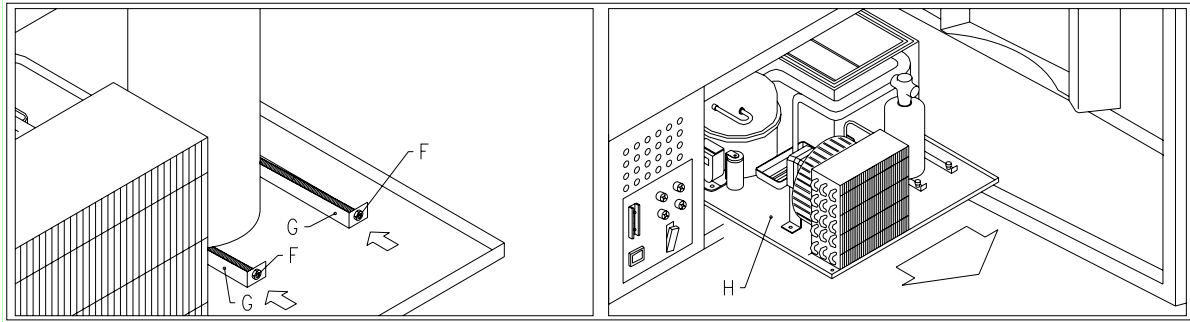

FIG. 19
- Loosen the handwheels pos. F FIG. 19 which lock the lowering lever mechanism of the evaporator box;
- Push the two brackets pos. G FIG. 19 in order to lower the evaporator box;
- At this point the whole refrigeration unit can be removed pos. H FIG. 19.